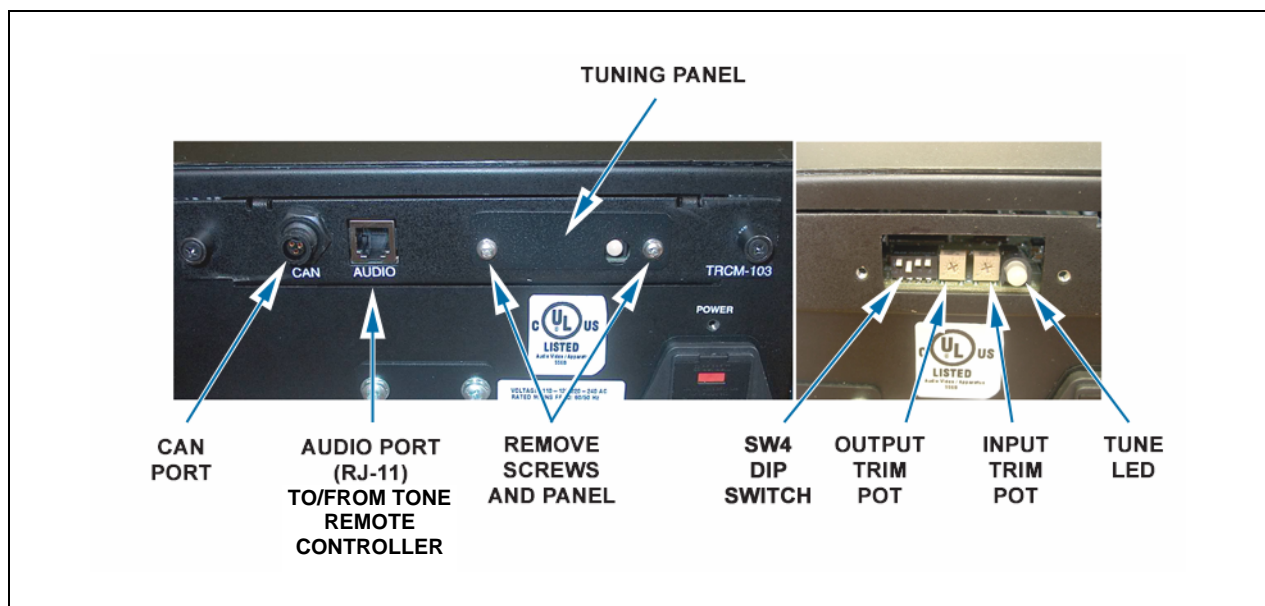

Figure 7-1: TRCM-103 Line-Level Adjustments
2. If not already, connect either a 2-wire or a 4-wire line interface cable between the RJ-11 jack at the TRCM-103 (jack labelled "**AUDIO**") and the TRC. See Figure 7-1 on page 34, Section 4.7.4 on page 24, and follow all manufacturer's instructions for connecting to and setting up the TRC.
3. Using a Phillips head screwdriver, remove the two (2) screws securing the TRCM-103 tuning panel to the rear of the TRCM-103. See Figure 7-1.